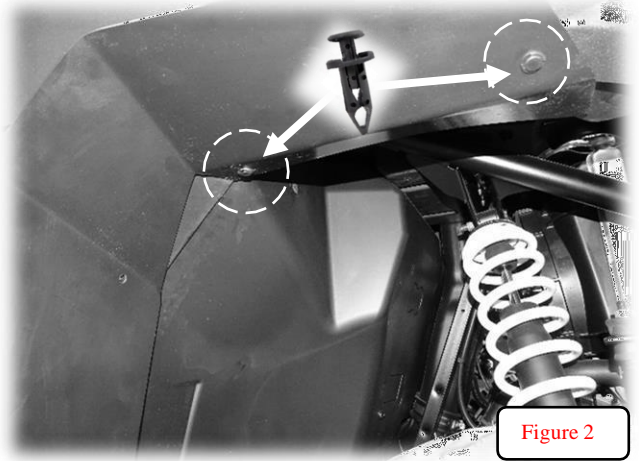

Figure 2
- 2) Place the fender flare against the upper factory fender, insert 2 plastic rivets to hang the fender as shown in Figure 2.